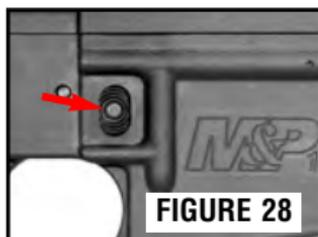

FIGURE 28
- Press magazine release in and remove the magazine (Figure 28).